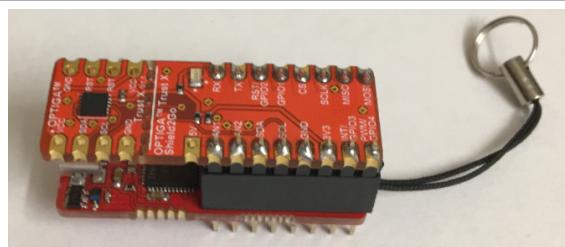

Figure 12 **OPTIGA™2Go Shield Connected to XMC2Go**
- Assemble the OPTIGA™ 2Go Shield on top of the XMC2Go board, like showing in Figure 12.